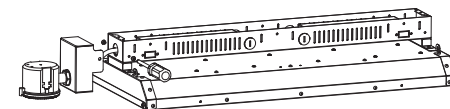

Figure10
- Step2. Knock out the side cover, mount the sensor on the side, do wiring according to instruction on sensor (Figure 10).